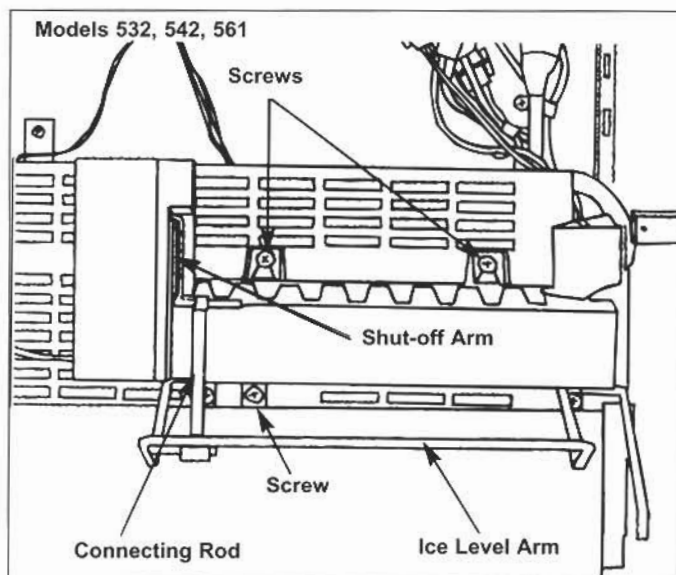

Figure 2-42. Icemaker
The guide on the carriage assy. contacts the arm of the ice maker linkage (Figure 2-42). As the carriage assy. is pulled out, the arm rides up the guide and the linkage will raise allowing clearance for the ice bucket. When the carriage is pushed back, the linkage drops into the ice bucket to sense the level of the ice.
The linkage is connected to the ice level arm by a connecting rod (Figure 2-42). As the linkage raises or lowers, the ice level arm raises or lowers.
1. To remove the icemaker, slide the connecting rod to the right, off of the icemaker shut-off arm, allowing the ice level arm to drop out of the way (Figure 2-42).